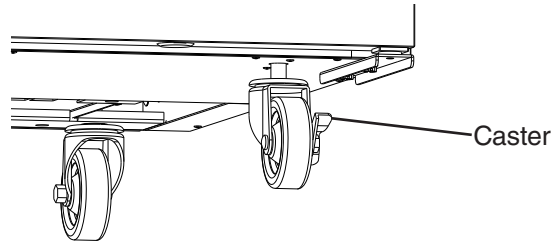

**Fig. 2**
- 2) Unscrew the appropriate caster to the approximate desired height. See Fig. 2.